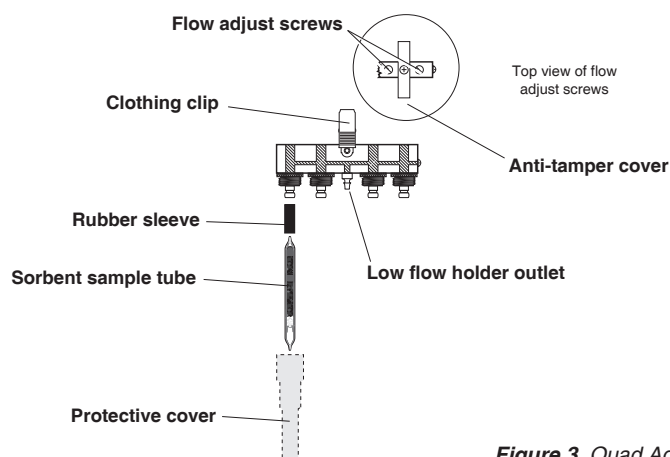

Figure 3. Quad Adjustable Low Flow Tube Holder
## Using a CPC and Dual, Tri, or Quad Adjustable Low Flow Tube Holder (Figure 3)
- Using a small screwdriver, loosen and turn the brass flow adjust screw (see above right) directly beneath the port holding the first active representative tube to be calibrated (**clockwise** to increase, **counterclockwise** to decrease) until the calibrator indicates the method-specified flow rate. **Do not adjust the flow rate on the pump.** *Note: For tri and quad models, first rotate each anti-tamper cover to expose the flow adjust screws, then adjust the appropriate one until the calibrator indicates the desired flow (Figures 3 and 5).*